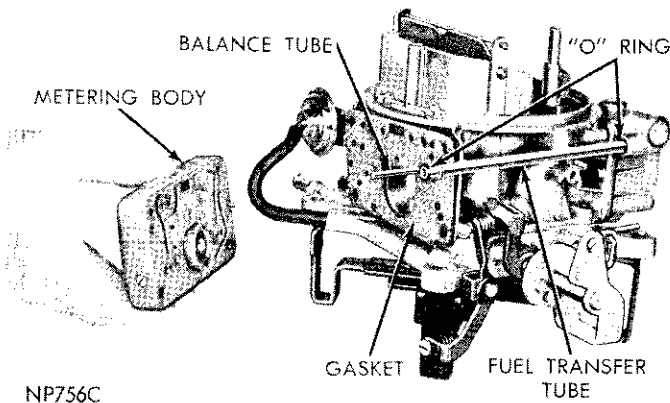
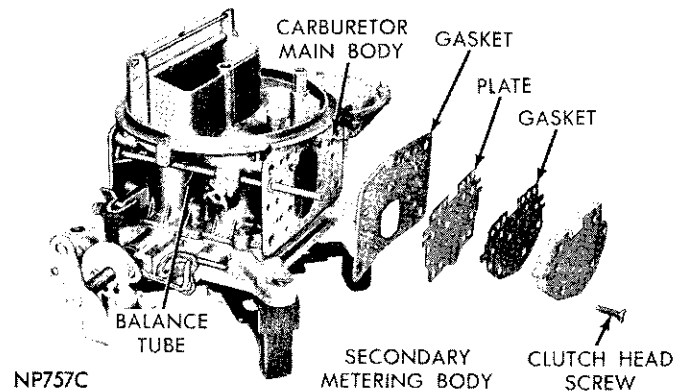
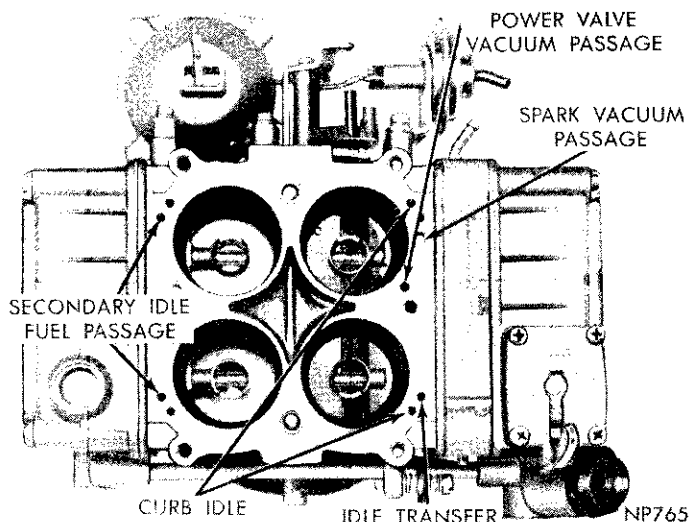

Fig. 3—Removing or Installing Primary Metering Body and Plate
Fig. 4—Secondary Metering Body, Plate and Gaskets
Fig. 13—Main Body Identification (Bottom View)
(3) Remove primary metering body by sliding straight off balance tube (Fig. 3). Remove plate to body gasket.
(4) Remove accelerating pump operating lever "E" clip and slide lever assembly off stub shaft. Remove adjusting nut, spring and screw.
(5) Remove fuel transfer tube and "O" rings (Fig. 3).
(6) Remove secondary fuel bowl assembly.
(7) Using a clutch head screwdriver (Tool CL-13) remove clutch head screws, carefully work secondary metering body, plate and gaskets off balance tube (Fig. 4).
(8) Remove balance tube, washers and "O" rings by sliding out of main body (either end).
(9) Disconnect choke diaphragm hose from throttle body fitting, then remove diaphragm assembly, at the same time disengaging link from fast idle cam lever.
(1) Place a new gasket on throttle body, then lower main body (Fig. 13) down on throttle body, aligning roll pin guides with openings in main body. Be sure primary bores of throttle body are on the same side as primary venturi.
(2) Holding assembly together, invert assembly and install attaching screws. Tighten securely.
(3) Install balance tube into main body and install new "O" rings and washers at each end. Be sure "O" rings are seated in recesses, followed by washers.
(4) Install a new secondary metering body to main body gasket (Fig. 4) followed by metering body plate, plate gasket and body. Install clutch head screws and tighten securely. (Be sure the main metering restriction ports are at the bottom).